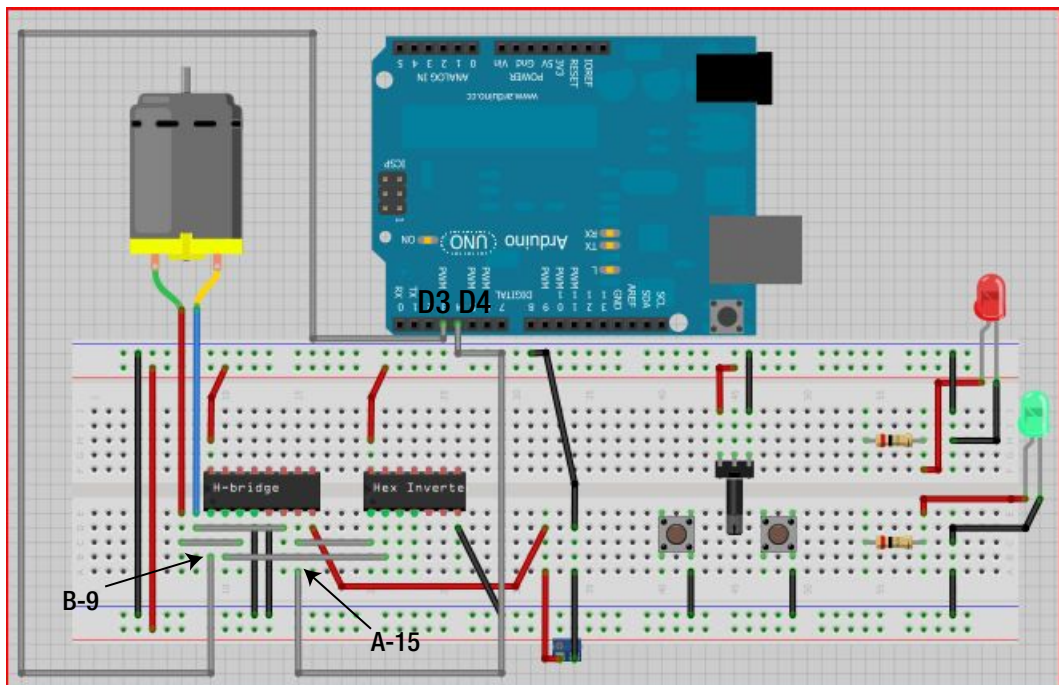

Figure 15-16. Attach the H-bridge to the Arduino
24. Now it's time to start connecting the circuit to the Arduino. First use a jumper wire to connect digital pin 3 (D3) of the Arduino to pin 1 of the H-bridge at B-9. Then attach digital pin 4 (D4) of the Arduino to pin 7 of the H-bridge at A-15. Figure 15-16 illustrates this process.